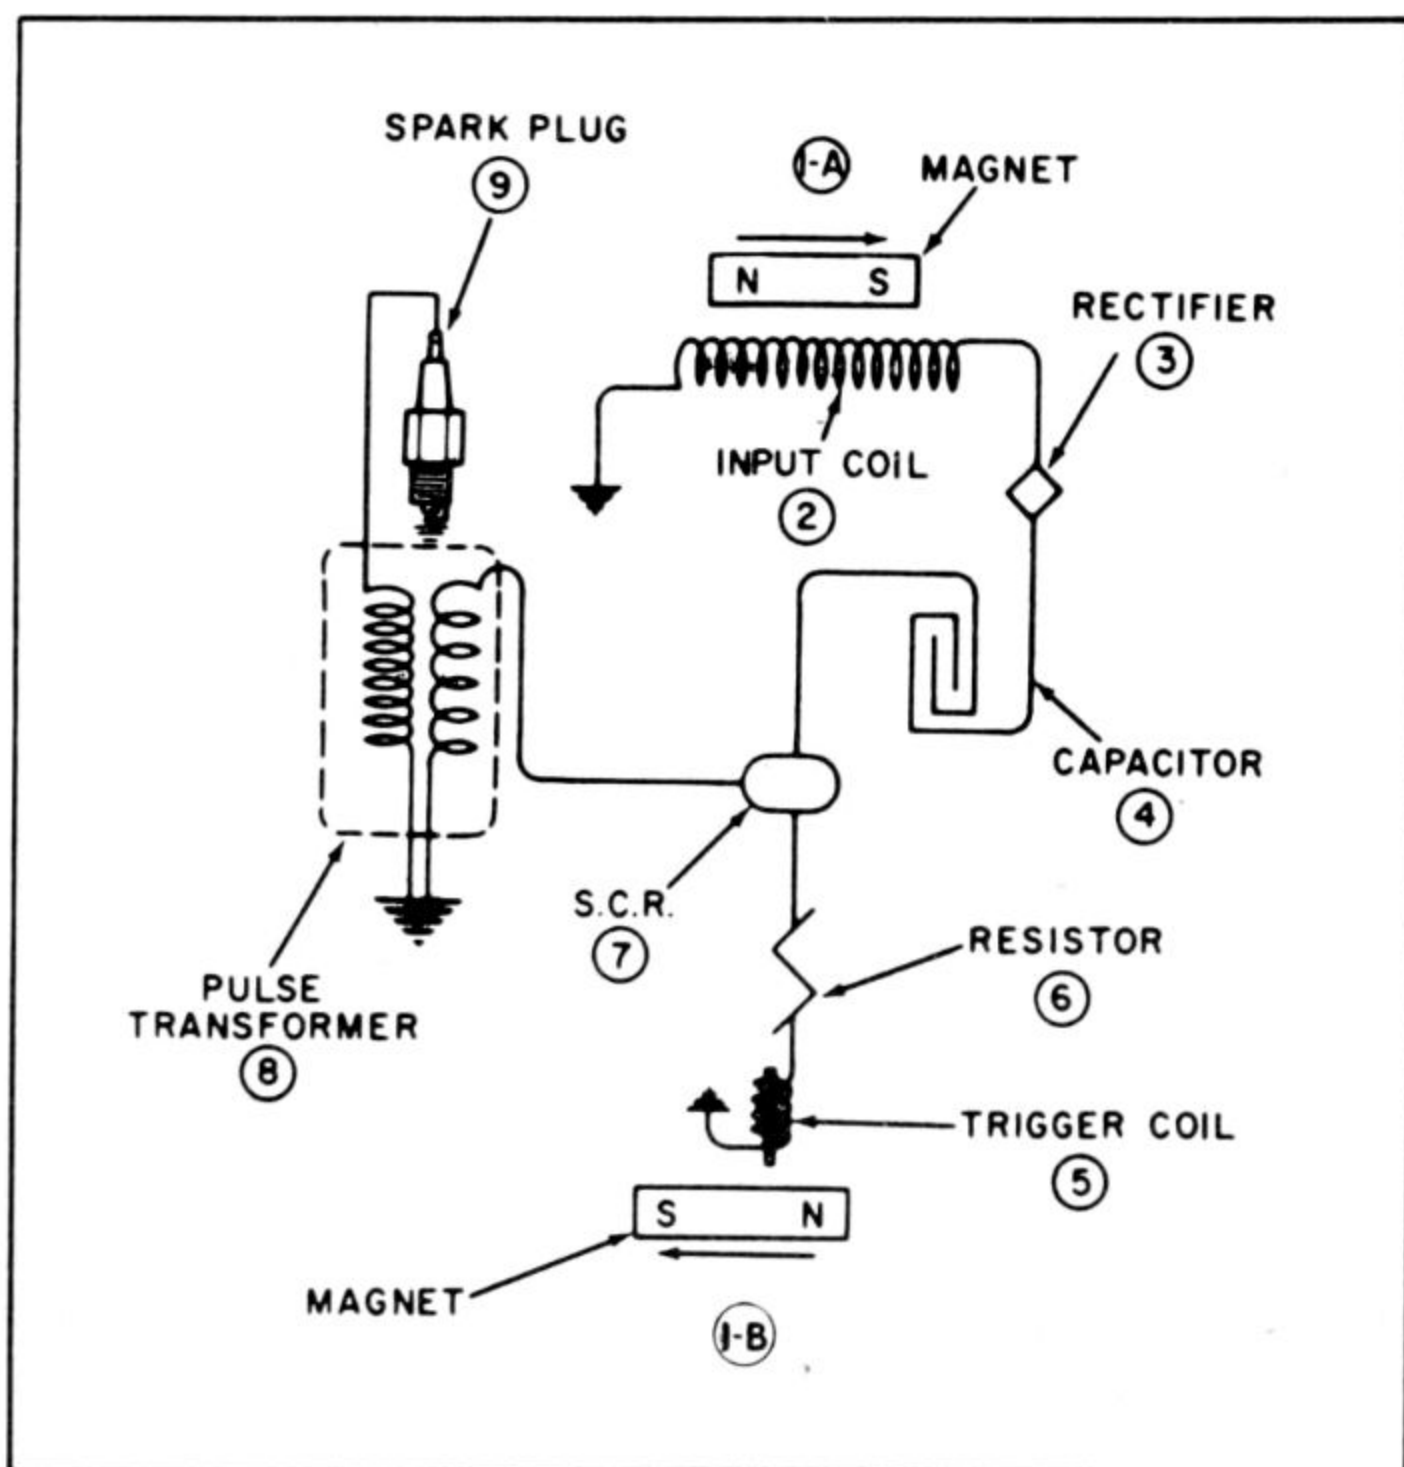

Fig. 2-33. The Tecumseh CDI system.
conventional systems obsolete. While circuit details vary somewhat between makes and models, basic operation, shown schematically in Fig. 2-33, is similar. The flywheel magnet (1-A) passes the input coil, generating an ac voltage of about 200V at normal engine speeds. Rectifier (3) converts alternating current to direct current, suitable for storage in a large capacitor (4). About 180° of crankshaft rotation later, the magnet passes a trigger coil, generating a small voltage across resistor (6). This voltage causes the silicon-controlled rectifier (7) to become conductive, releasing the charge on the capacitor (4) into primary windings of the pulse transformer (8). A large voltage is generated in the transformer's secondary windings that goes to ground across the spark plug (9) electrodes. Some CDIs employ a second trigger coil to retard the spark at low rpm; others feature electronic advance (keyed to rpm as a function of trigger-coil voltage).